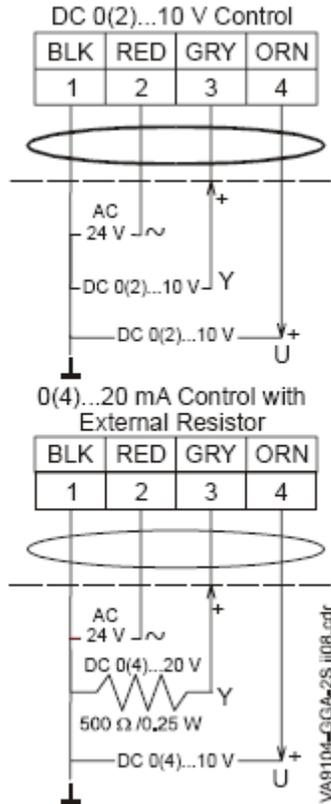

Figure 7: VA9104-GGA-1S control wiring diagram
The VA9104-GGA-1S Series Electric Non-Spring Return Valve Actuators require AC 24 V power and a DC 0(2) to 10 V or 0(4) to 20 mA controller input signal. These electric actuators include an integrated 48 in. (1.2 m) long cable; see Figure 7 for proper wiring.